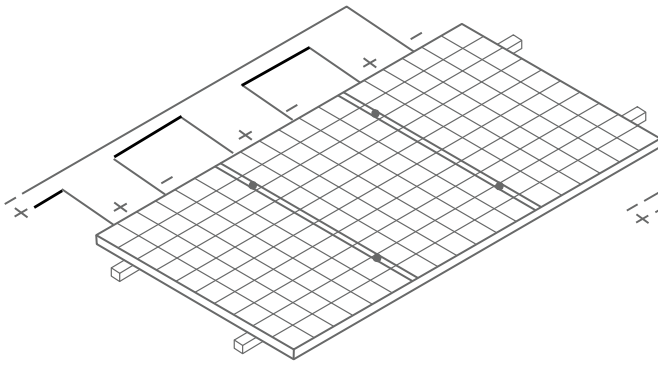

Figure 8 Connection in Series
- It is not allowed to use the Modules in different models in the same solar photovoltaic system. When the Modules are connected in series, the voltage of every string shall not be higher than the maximum voltage of the system (as shown in Figure 8). Reference equation of the maximum number of the Modules in serial connection: maximum system voltage of the module/ (1.25\* open-circuit voltage).